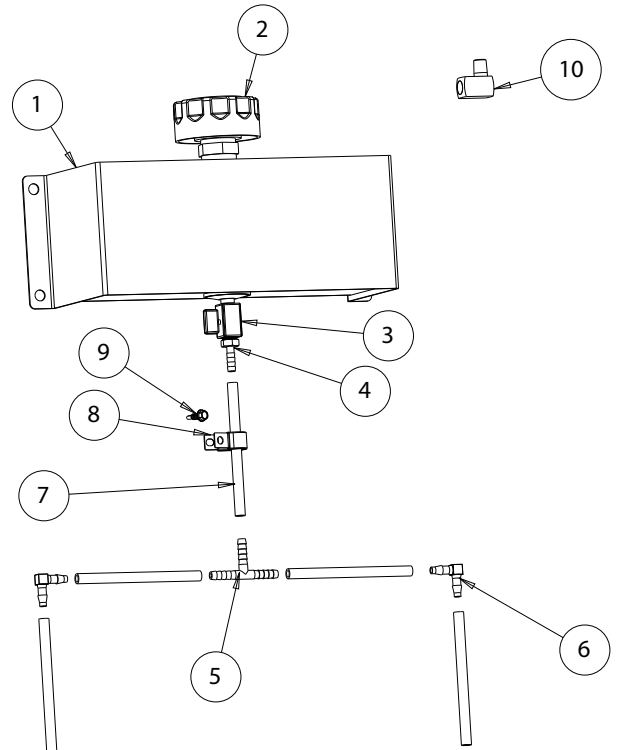

Fig. 1
6. Install the hoses (3020763) as needed, see Fig. 1 for layout example.